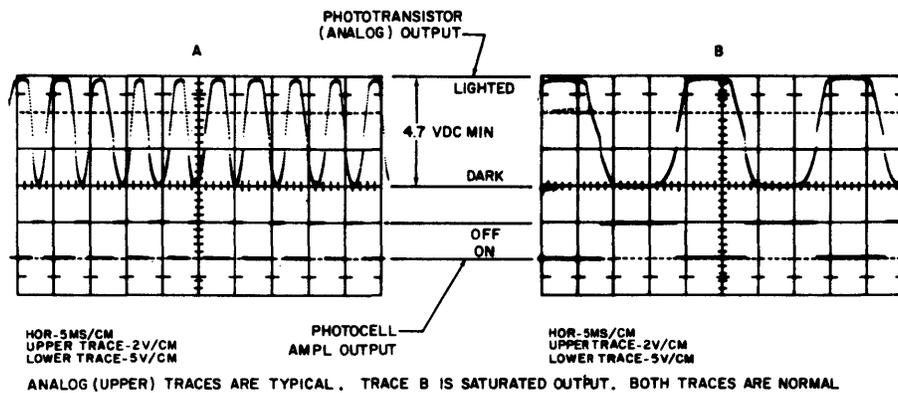

Figure 6-12. Photocell/Amplifier Outputs
6. Manually pull the detent pawl and move the carriage back and forth. The photocell output trace should be an excursion between a low voltage of  $-0.6 \pm 0.4$  vdc and a high voltage of  $+5.0 \pm 0.5$  vdc (Figure 6-12). The photocell must saturate (flat top) at the high voltage level as the carriage is moved back and forth. If the requirement is not met, unhook the pawl spring from the grooved pin. Slowly rotate the detent gear until the oscilloscope trace amplitude is maximum. If the photocell does not saturate, correct the situation according to one of the following: